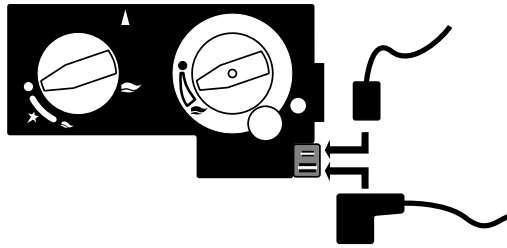

fig. 15
3. Connect the wires to the gas valve (see fig. 15).